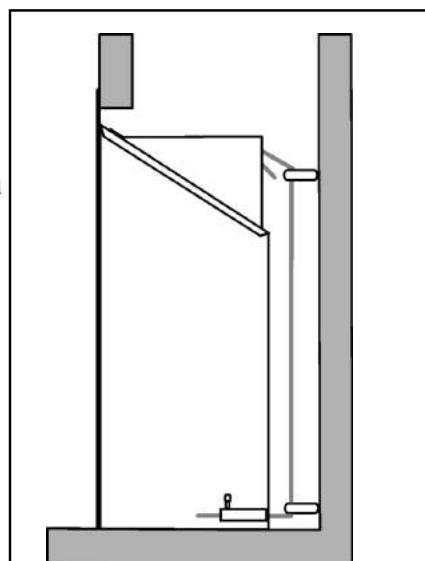

Figure 19. Cable route
**10.** Thread the cables through the eyebolts. Return the cables through the holes near the bottom of the convection box back panel (See figure 19).